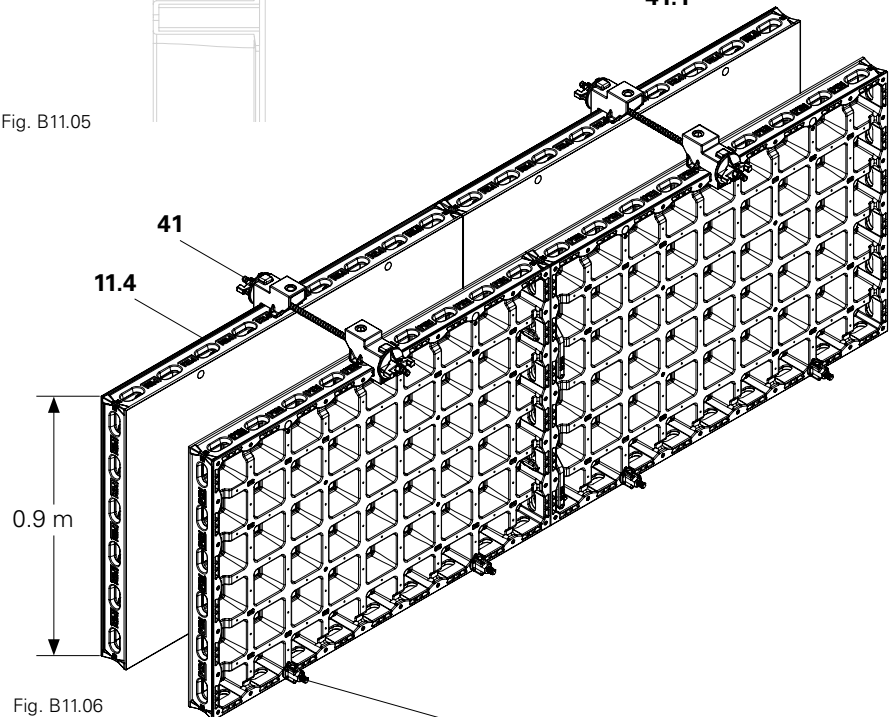

Fig. B11.06
1. Attach the hooks (41.1) of the DUO frame holder (41) to the frame profile of the panel.
2. Insert the tie rod (50) through the frame holder.
3. Tighten the tie rod with the DW 15 wingnut counterplate (54).
For the bottom tie points, use the DW 15 cam nut (53) to prevent the nut and the base from overlapping at the bottom tie point. (Fig. B11.06 + B11.06a)